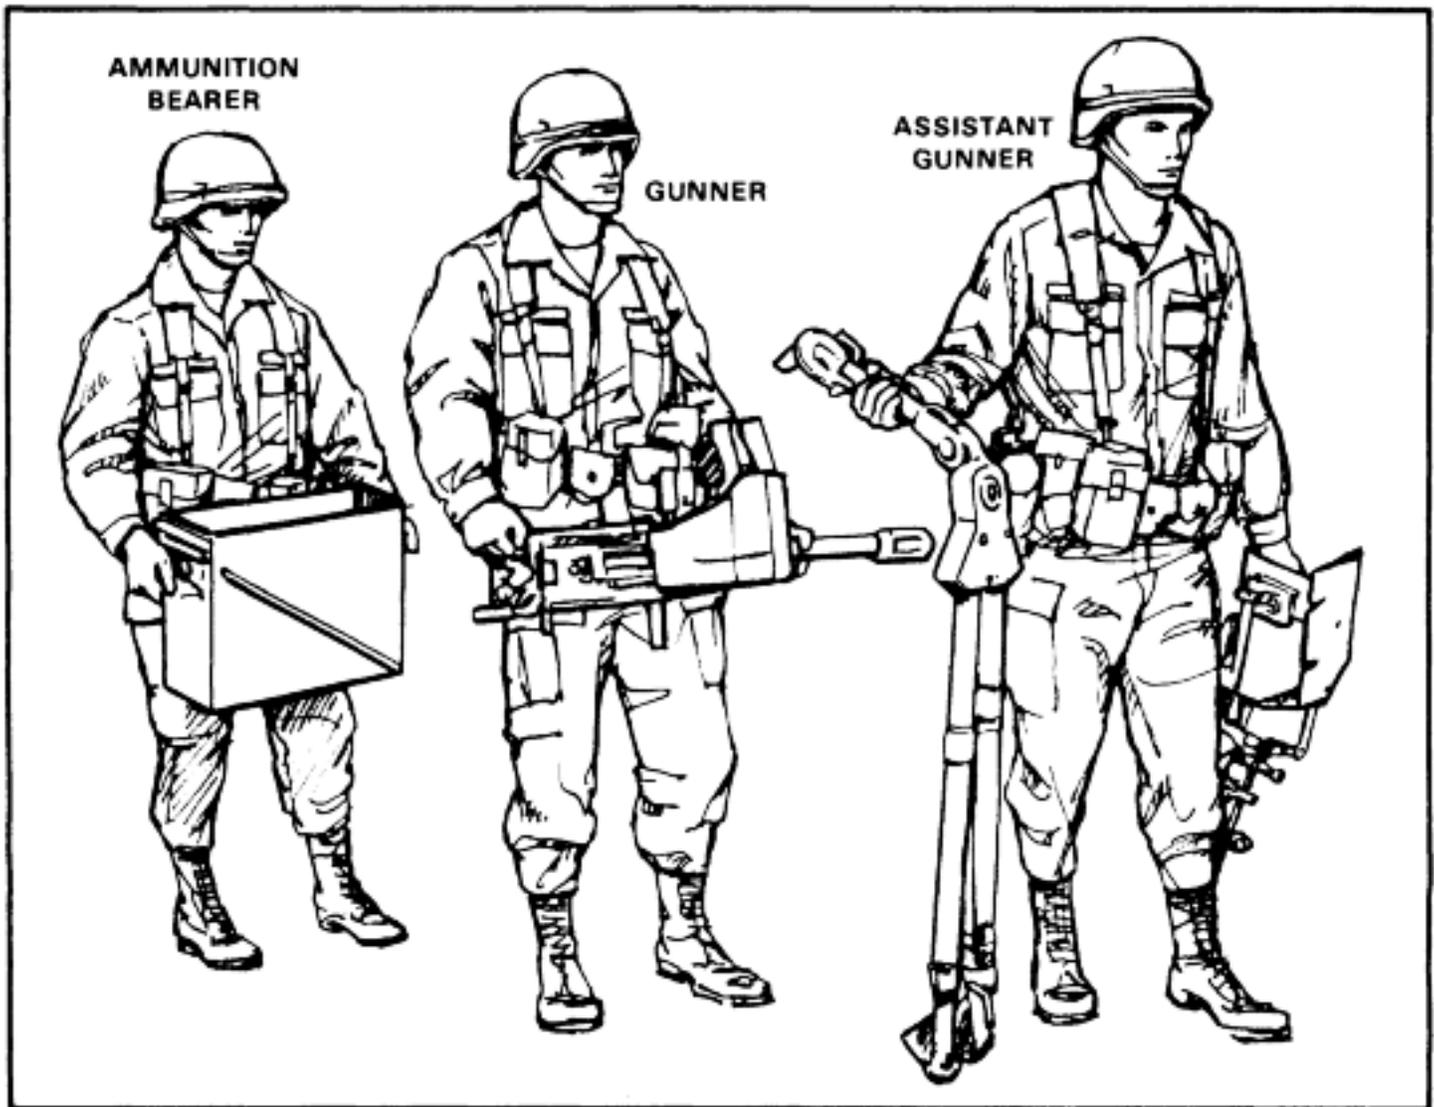

Figure 4-1. Three-man MK 19 crew.
- c. Standard. Upon hearing the leader's command, the crew forms in a column, five paces apart, in the following order: assistant gunner, gunner, and ammunition bearer (Figure 4-1).